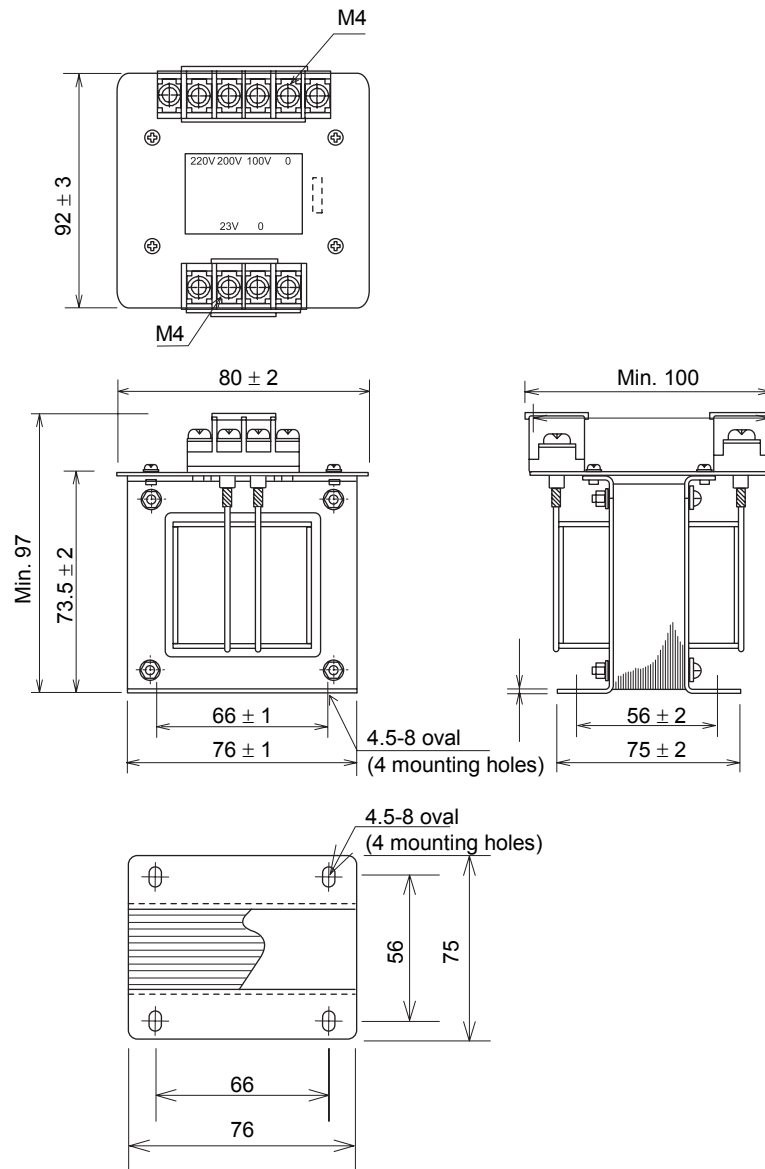

Figure 1. Dimensions (mm)
- Four M4 screws and nuts (not supplied with the product) are necessary to mount the product on a panel. Four mounting holes are provided on the mounting foot. Refer to Fig. 1 for the mounting holes.
Remove the terminal cover and connect the wires to the terminals needed. M4 screw terminals are provided on the product. Refer to Fig 1.